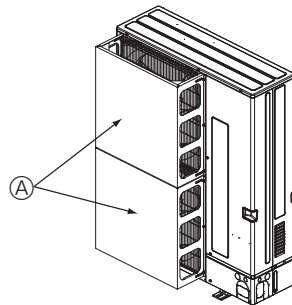

Fig. 2-3
- ② Install an optional air guide if the unit is installed in a location where strong winds from a typhoon, etc. may directly enter the air outlet. (Fig. 2-3)